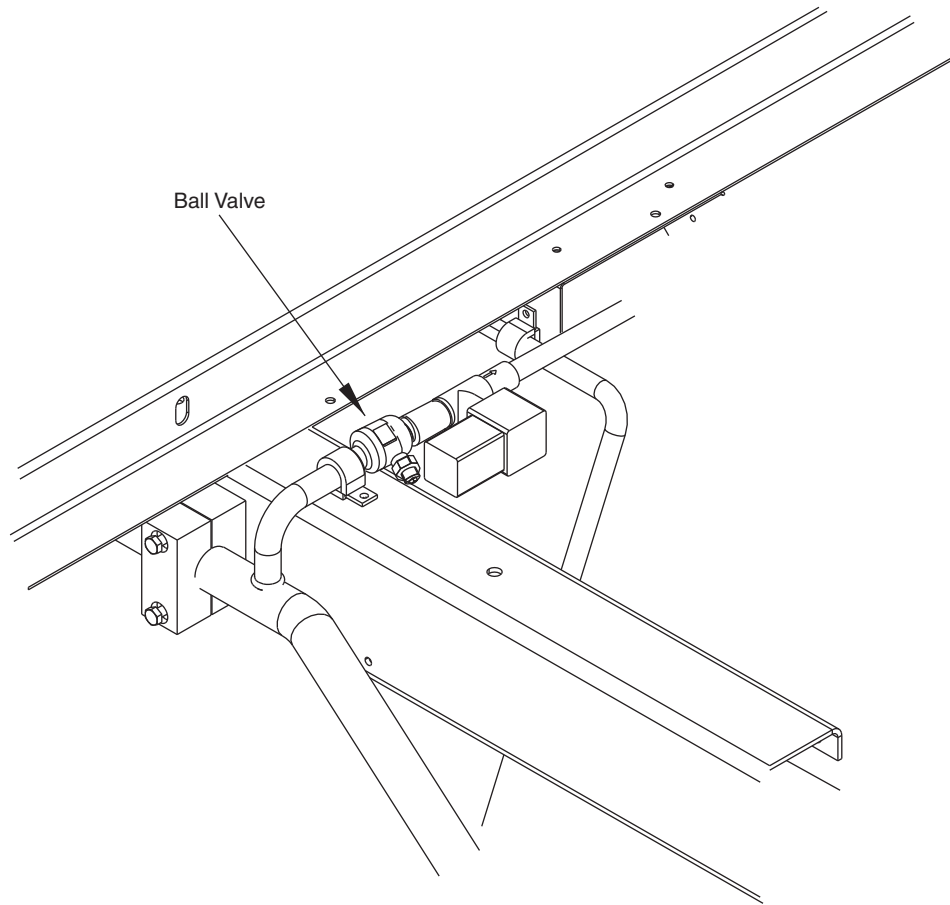

Fig. 5 — Typical View of 5/8 in. Swage Tube, 5/8 in. Clamp and Solenoid Valve Installed
- b. Braze the ball valve (Item 6) to the beaded tube. See Fig. 5.